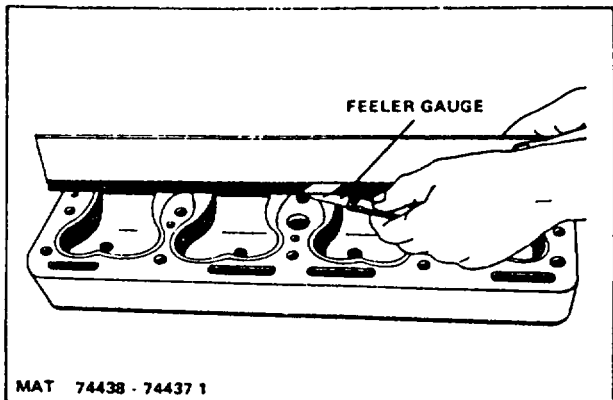

Figure 19. Checking Cylinder Head Flatness Lengthwise
5. Check out-of-flatness with straight edge and feeler gauge: maximum permissible is .00075" per inch of width or length (Figures 19 and 20). Thus, for a cylinder head 16" long, maximum permissible lengthwise out-of-flatness is .012". Out-of-flatness should vary gradually and uniformly from end to end and side to side. Localized depressions or high spots should not exceed .003".